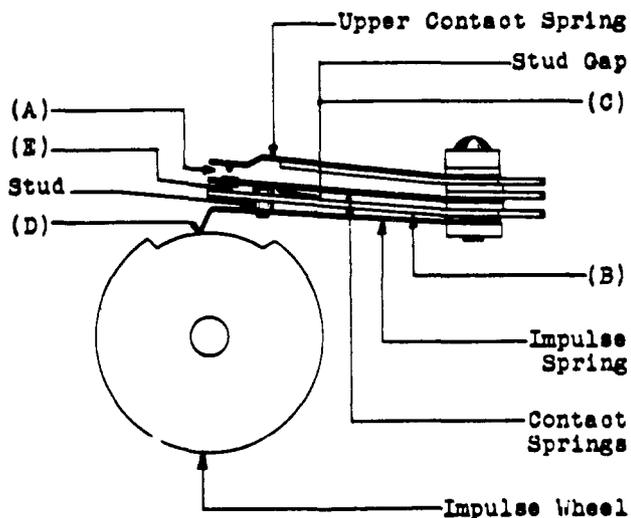

Fig. 3 - Impulse Wheel and Contact Spring Assembly
*2.04 Contact Separation - Fig. 3 (A)
*2.06 Spring Clearance - Fig. 3 (B): The clearance between springs designed never to make contact shall be
- *2.08 Stud Gap - 491A and E Keys - Fig. 3 (C): The gap between the top of the stud and the middle contact spring of the rear unit, with the key in the normal position shall be:
- (a) 491A and E Keys - Fig. 3 (D): The pressure of the impulse spring against the impulse wheel measured with the spring in the notch in the impulse wheel shall be
(1) When checking the impulse spring pressure lift the spring which rests on the impulse spring away from the stud.
(2) To check the pressure apply the gauge to the spring just back of the point where the spring is bent to make contact with the impulse wheel.
- (b) 60 Type Selector Keys (Except 603) - Fig. 3 (D): The pressure of the impulse spring against the impulse wheel measured with the spring in the notch in the impulse wheel shall be
(a) 491A and E Keys - Fig. 3 (E): The contact pressure of the normally closed contacts shall be
(b) 60 Type Selector Keys - Fig. 3 (E): The contact pressure between normally closed contacts shall be